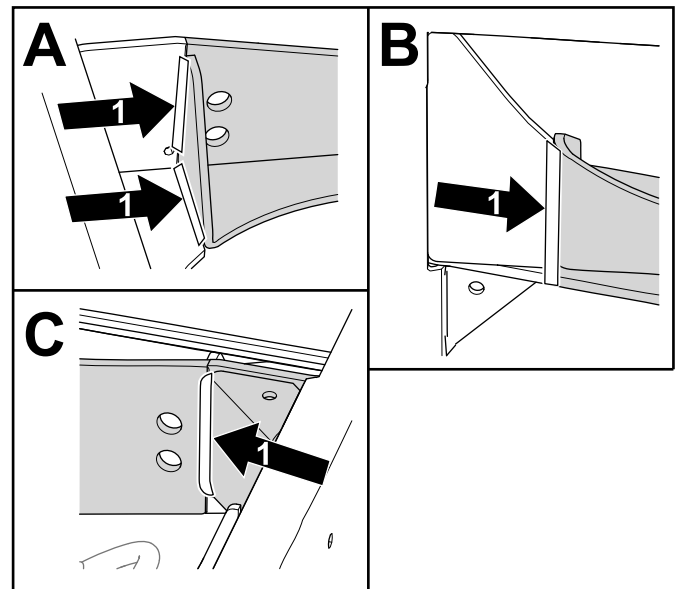

Figure 15
1. Weld the axle support to the frame in the areas shown in (Figure 15). Repeat on the other side.